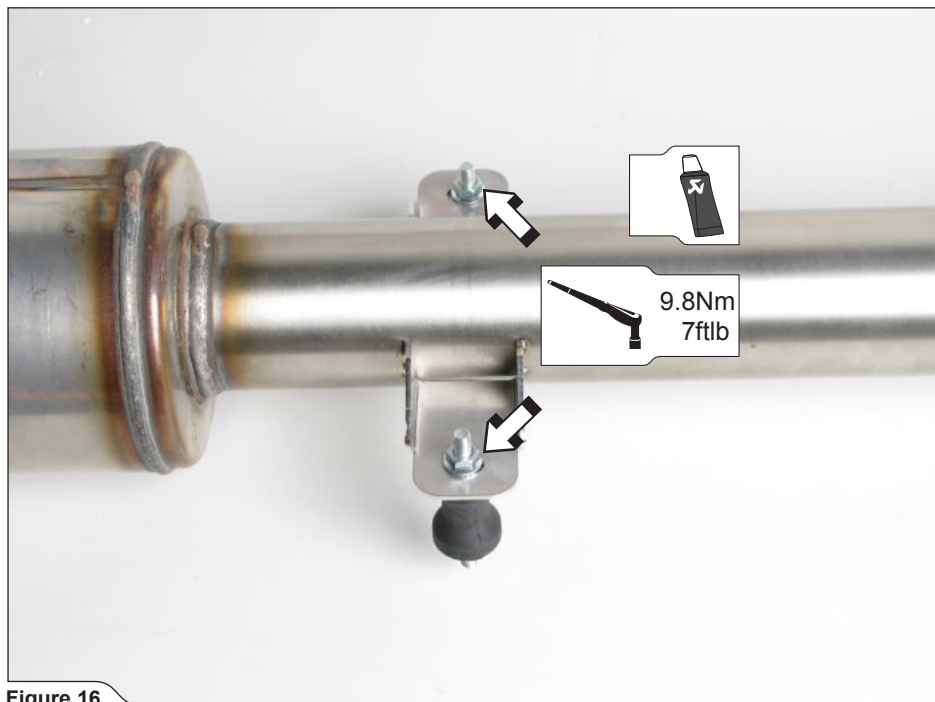

Figure 16
5. **For Evolution:** tighten the additional rubber dampers onto the resonator (**Figure 16**).